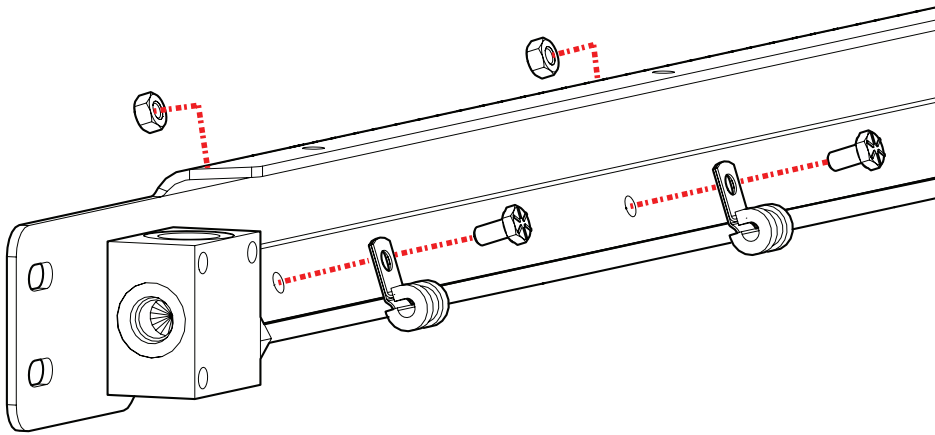

Figure 22: Install the bolts, nuts, and clamps that secure the trigger line to the rail.
20. Install the bolt, nut, and loom clamp that secures the trigger line to the rail (Figure 22). Install all original bolts, nuts, and clamps.